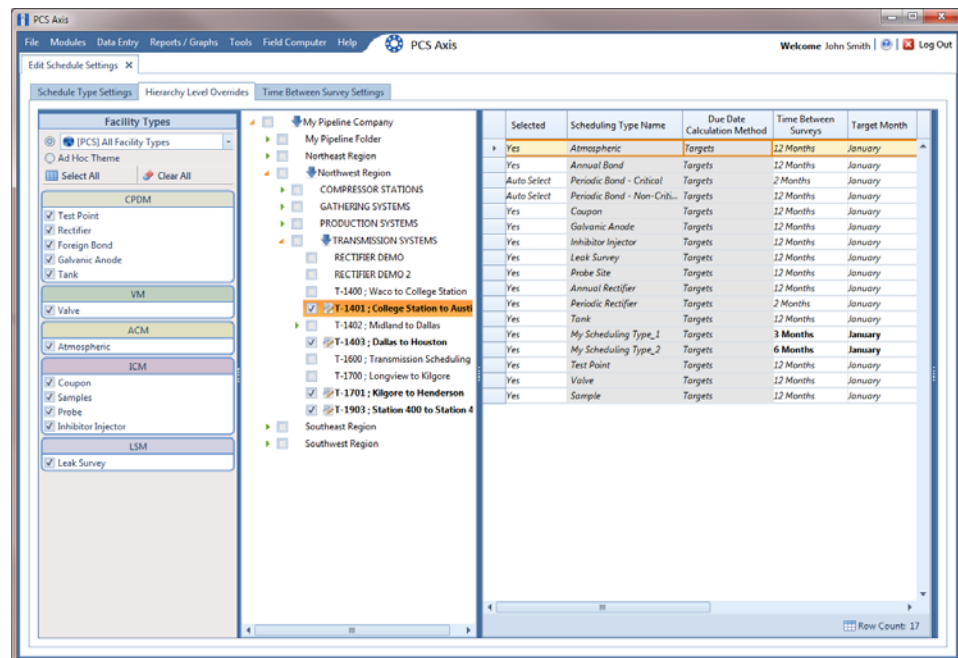

Figure 9-7. Hierarchy Level Overrides
- 2 Click **Data Entry > Edit Schedule Settings > Hierarchy Level Overrides** tab (Figure 9-7).